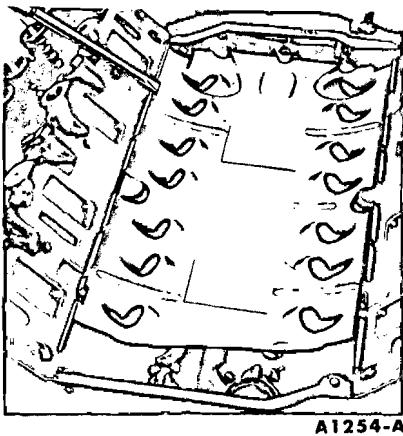

FIG. 76—Baffle Plate Removal
10. Remove the baffle plate from the valve push rod chamber floor by prying up on the baffle with a screwdriver (Fig. 76).